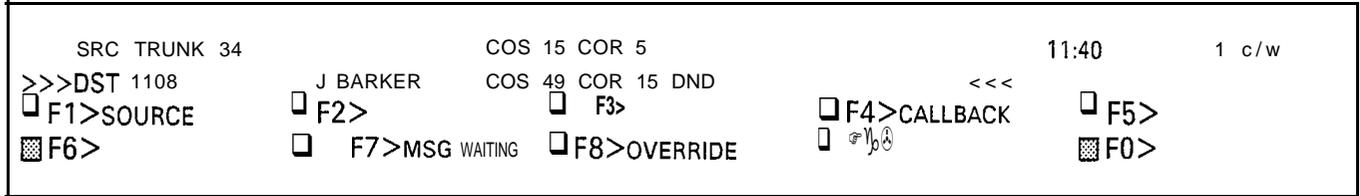

Figure 3-16 Calling an Extension with Do Not Disturb (DND)
3.20 If the Attendant reaches a party with Do Not Disturb (DND), line 2 (DST) will display DND (Do Not Disturb); refer to Figure 3-16. The Attendant may switch back to the source (SOURCE), send a message (MSG WAITING) or override the DND (OVERRIDE).